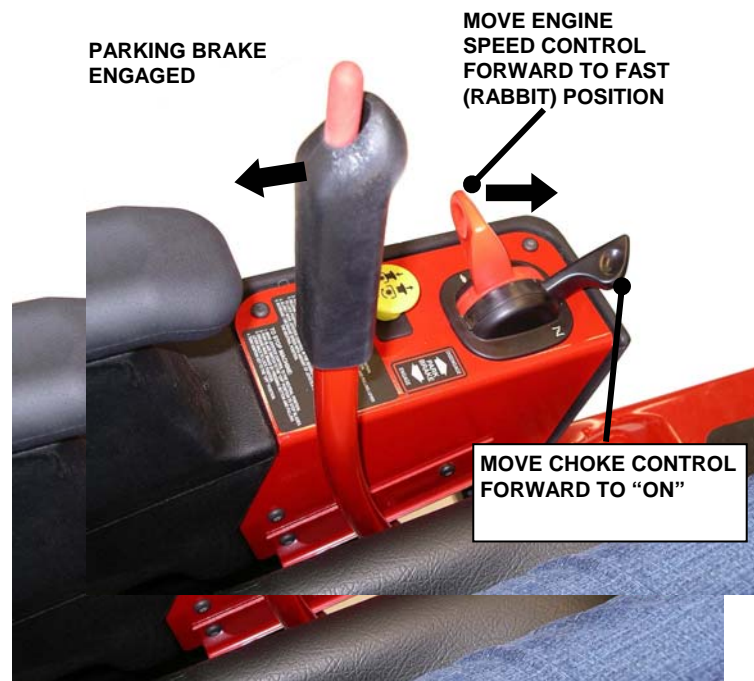

FIGURE 2.6
2. Make certain the blade switch is in the "Off" position. See Figure 2.6.
5. Move choke control forward to the choke "ON" position. See Figure 2.6.
6. Move engine speed control forward to the "Fast" (Rabbit) position. See Figure 2.6.